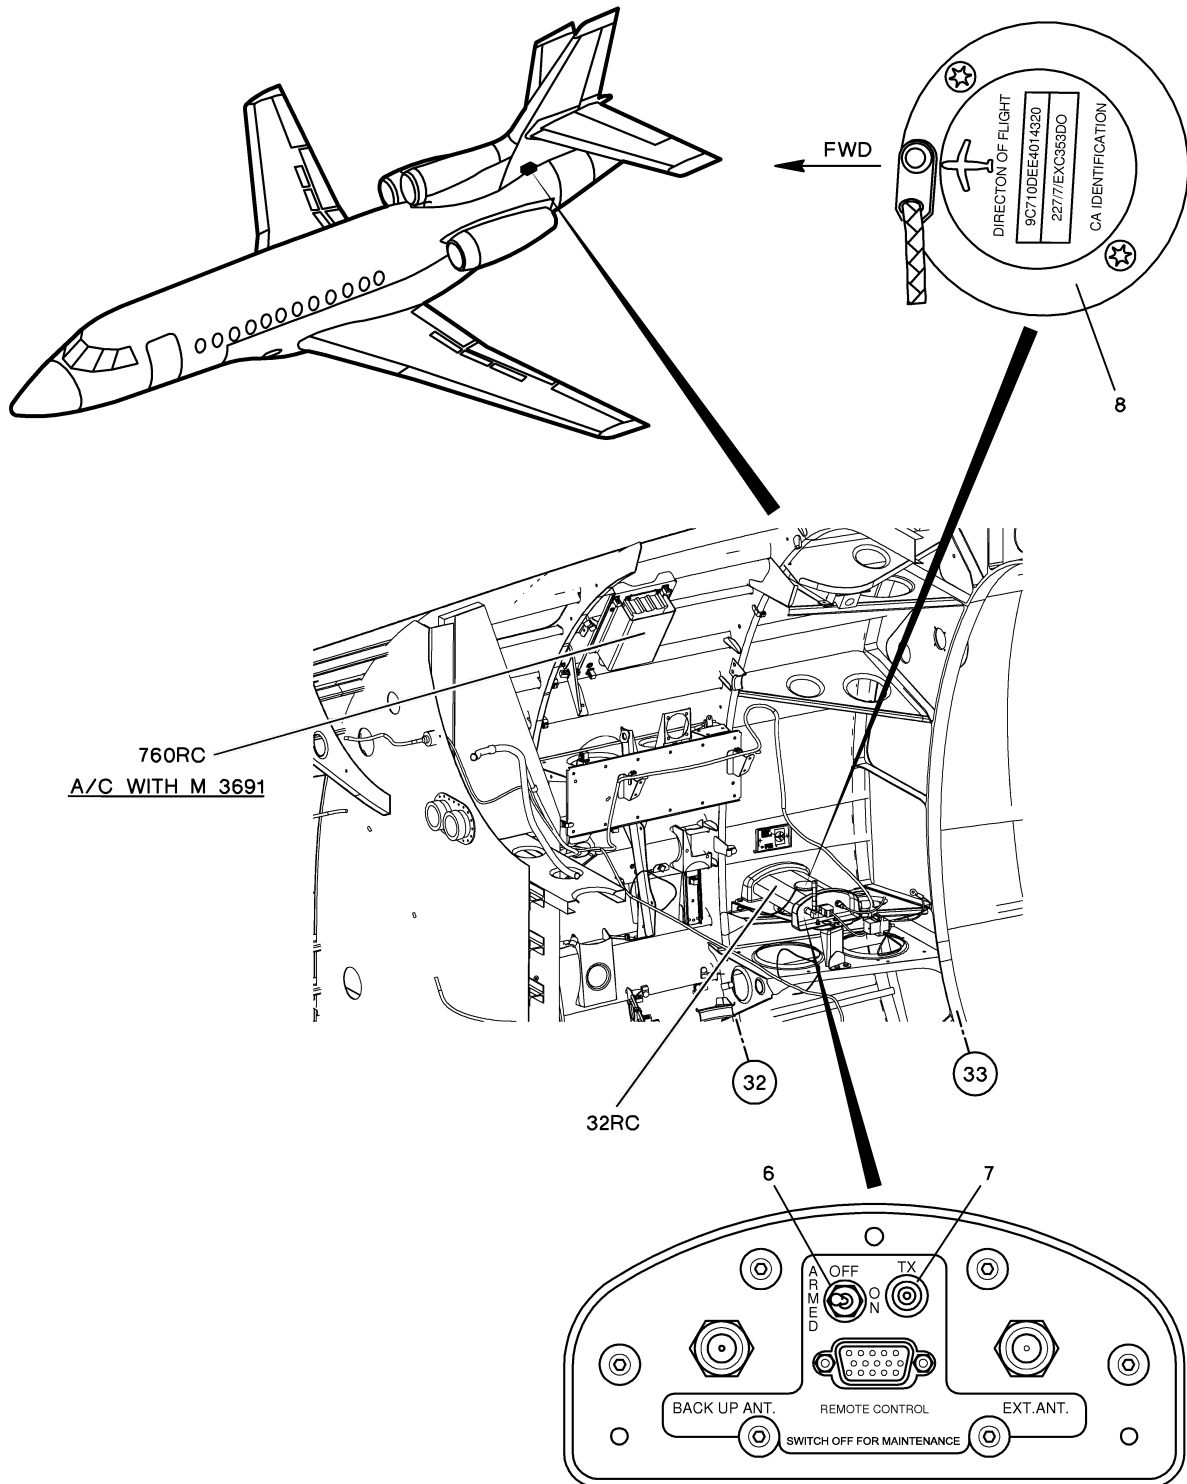

Figure 4: LOCATION OF EQUIPMENT FOR ELT ADT 406 (A/C WITH SB 184)
- (1) In the cockpit, on the RH circuit breaker panel (10PP), disengage the "VOICE RECORDER" circuit breaker (1RK).
- (2) In the mechanic's servicing compartment:
- (a) Remove ELT (32RC) ((Refer to TASK 25-61-01-900-802), paragraph "Removal of Emergency Locator Transmitter (ELT) (32RC)") without removing the crash module (8-fig. 4) from the ELT.
- (b) Set the "ARMED/OFF/ON" selector switch (6-fig. 4) on ELT (32RC) to "ON".
- (c) Three seconds after the red "TX" light (7-fig. 4) has flashed twice (and the two warning tones have been simultaneously heard), check that:
- 1 The red "TX" light (7-fig. 4) illuminates steady and the warning tone can be heard for approximately 6 seconds,
- 2 The red "TX" light (7-fig. 4) then flashes at 1 Hz (0.5 s on, 0.5 s off) for 10 seconds: that is symptomatic of an external antenna connection failure, because no antenna is connected to ELT (**32RC**).
NOTE: The test is passed if the red "TX" light (7-fig. 4) illuminates steady for 10 seconds. If the red "TX" light (7-fig. 4) flashes for 10 seconds, the test is failed.
- (d) Set the "ARMED/OFF/ON" selector switch (6-fig. 4) on ELT (**32RC**) to "OFF".
CAUTION: THE "ARMED/OFF/ON" SELECTOR SWITCH (6-FIG. 4) ON ELT (**32RC**) MUST BE SET BACK TO "OFF" WITHIN 30 SECONDS AFTER THE START OF ELT ACTIVATION.
- (1) Set the "ARMED/OFF/ON" selector switch (6-fig. 4) on ELT (**32RC**) to "ARMED".
- (2) Shake ELT (**32RC**) to give it an acceleration in the direction shown by the "DIRECTION OF FLIGHT" indication (DETAIL A).
- (a) Check that the red "TX" light (7-fig. 4) flashes at 0.5 Hz (1.75 s on, 0.25 s off) and that a warning tone (from ELT (**32RC**)) can be heard.
- (3) Set the "ARMED/OFF/ON" selector switch (6-fig. 4) on ELT (**32RC**) to "OFF" within 30 seconds.
- (1) Energize the aircraft systems (Refer to **TASK 24-00-00-860-801**, paragraph "Energization with the Electrical Ground Power Unit").
- (2) In the mechanic's servicing compartment, make sure that the "ARMED/OFF/ON" selector switch (6-fig. 4) on ELT (**32RC**) is set to "ARMED".
- (3) Launch the ELT self test from the ELT control unit (**33RC**) as follow: